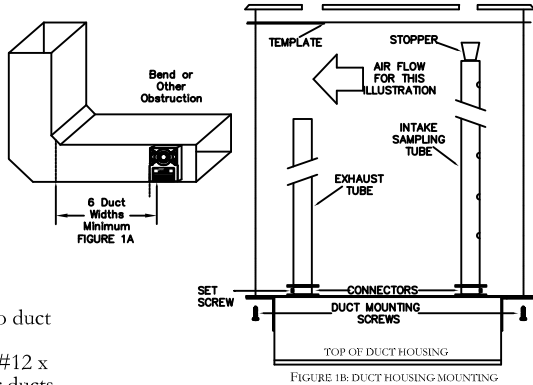

FIGURE 1B: DUCT HOUSING MOUNTING
E. MOUNT THE DUCT HOUSING (See Figure 1B & 2)